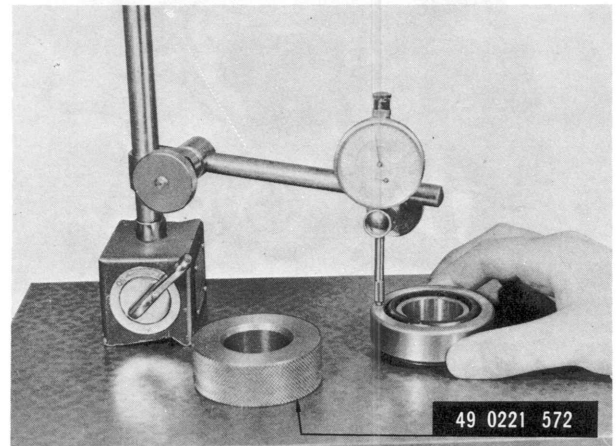

Fig. 9-30 Measuring bearing height
8. Place the bearing model and the rear pinion bearing on the surface plate and compare their heights as shown in Fig. 9-30.